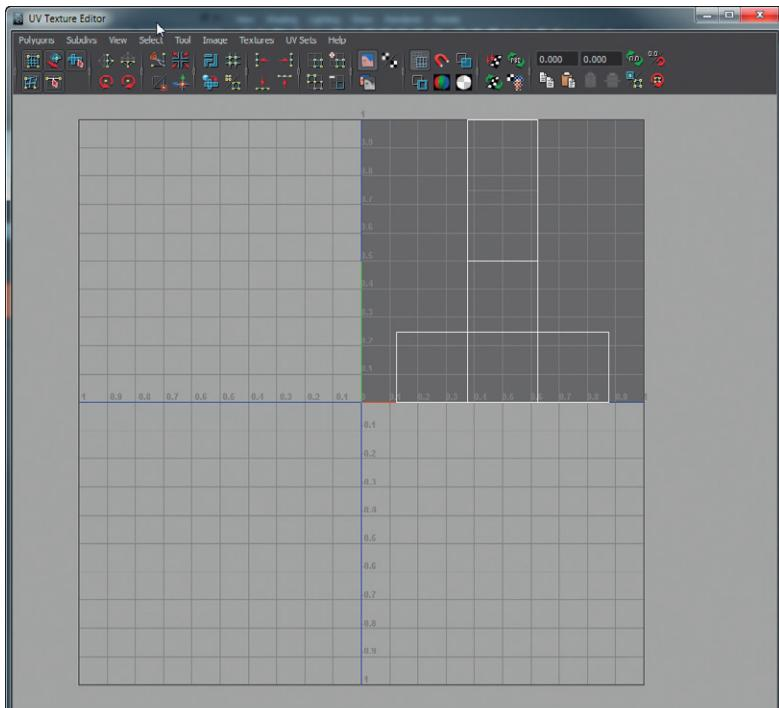

FIG 5.1 UV Texture Editor with a cube's default UVs displayed.
The mechanism that Maya has provided to work with UVs is the UV Texture Editor. You can bring this tool up via Window > UV Texture Editor (Fig. 5.1).
There are really a lot more tools available here than we are going to actually use in our tutorials, but here are the core ideas: All of the icons across the top of the interface (and below the pull-down menus) are simply shortcuts to commands available via the pull-down menus. The biggest work area below that will show four quadrants, but only the top right quadrant will (at this point and by default) include any UVs or texture information. So for instance, in Fig. 5.1, there is a dark gray swatch in that top right quadrant that represents the color of the lambert1 material that is the default gray assigned to the new objects in Maya.
A critical idea of UVs is the concept of **shells**. The shape shown in Fig. 5.1 is one shell. Think of shells as unbroken collections of polygons where each of the shared edges between polygons have been (and this is the metaphor Maya uses too) sewn together.
Step 2: Open and examine the current UV set. Do this by first selecting the wall shape and then opening the UV Texture Editor (Window > UV Texture Editor). It should actually look just like Fig. 5.1.